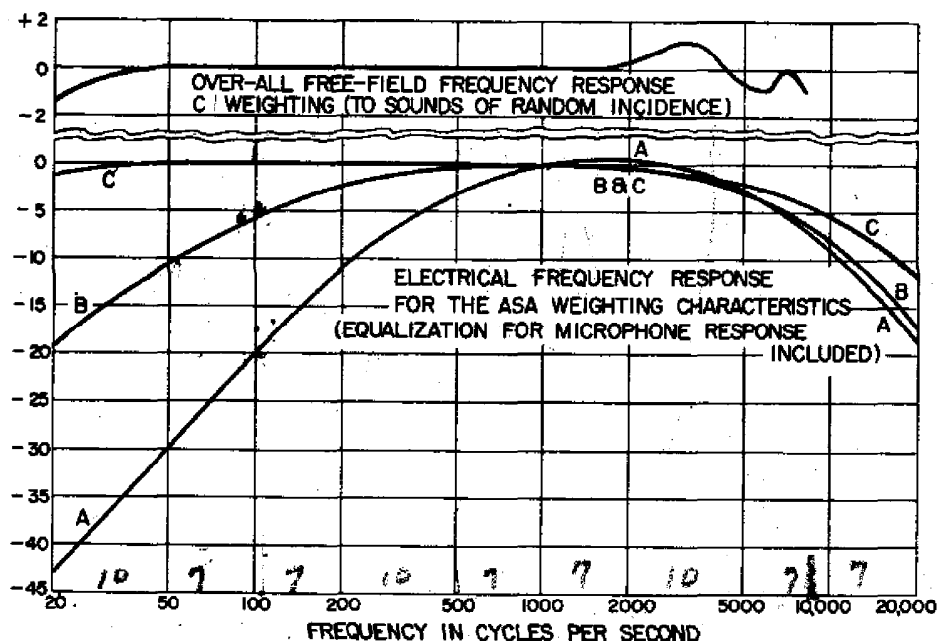

Figure 2. Typical Acoustical and Electrical Response Curves for Type 1551-B.
2.3 SELECTION OF WEIGHTING NETWORK. Many early noise criteria specified weighted sound levels, using this rule of thumb: A weighting for sound levels from 24 to 55 db, B for levels from 55 to 85 db, and C for levels from 85 to 140 db. (The appropriate range was selected after a preliminary C-weighted measurement.) More recent opinions favor selection of weighting network on the basis of the type of noise measurement; for instance, A weighting is often preferred for speech-interference measurements, while B is recommended for surveys of traffic noise. In the absence of specific weighting requirements, it is usually helpful to take measurements on all three weighting networks. For a full discussion of weighting networks, refer to the General Radio Handbook of Noise Measurement. Response curves for the various weighting networks, equalized for microphone response, are given in Figure 2.